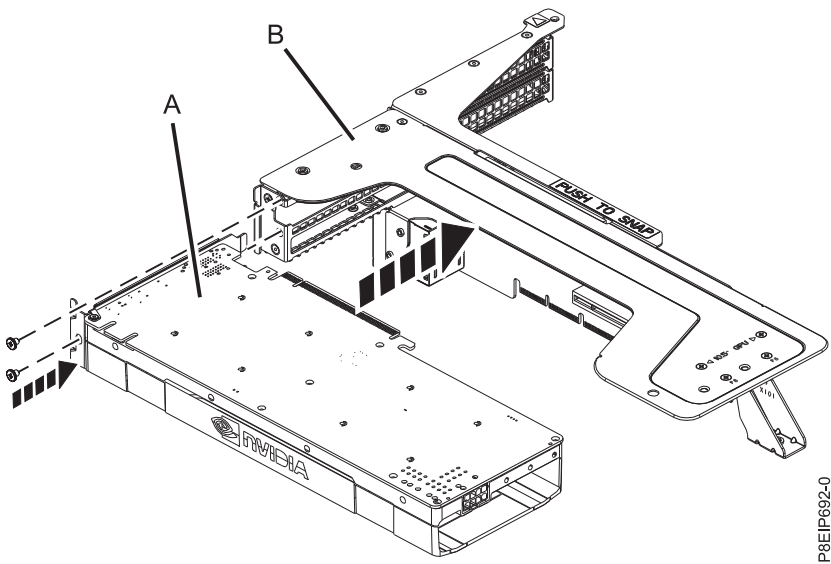

Figure 27. Inserting the GPU into the riser
- a. Insert the GPU (A) into the PCIe adapter riser (B) as shown in Figure 27.